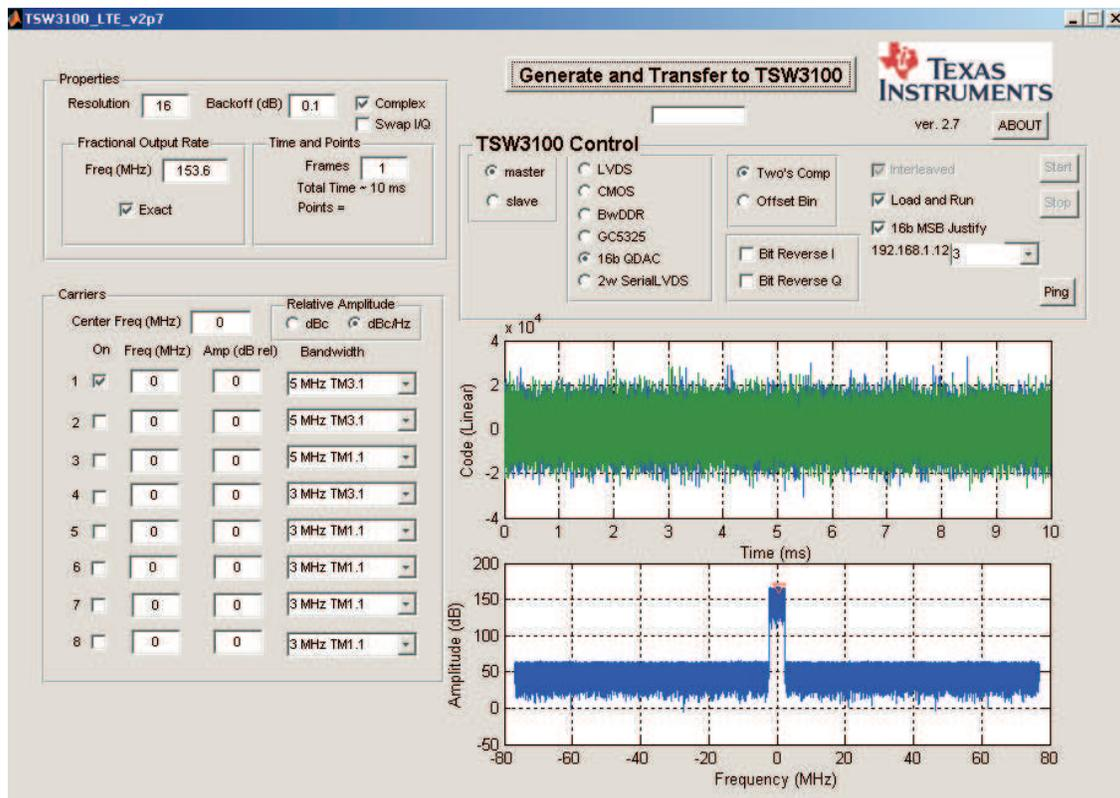

Figure 26. TSW3100 LTE GUI After Waveform Created
4. Click on the gray button *Generate and Transfer TSW3100*. When the TSW3100 is finished, the TSW3100 appears as shown in Figure 26. This process takes 1 to 2 minutes. Version 2p7 of the TSW3100 does have some errors in generating certain LTE signals. This will be fixed in a later version of the TSW3100 software. The following signal types are generated correctly in version 2p7.